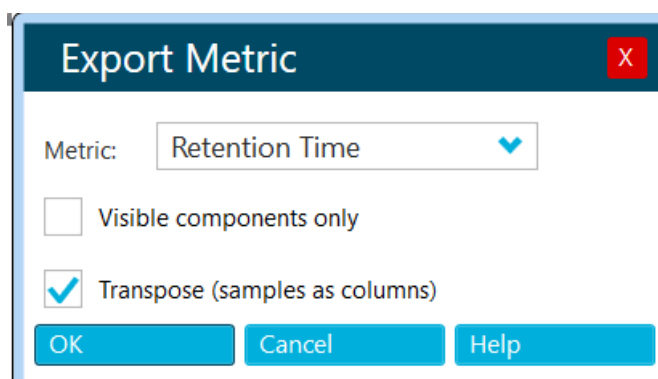

Figure 9.2. Exporting the results from SCIEX OS software for use in sMRM Pro Builder.
9. Process the data in SCIEX OS software [Section 8.0]. At this point careful data review is recommended to ensure the right metabolites are being integrated. Once satisfied, export the results for analysis in the sMRM Pro Builder. Select Reporting → Export Results → Results Table – Metric, then export the Area, Retention Time, Width at 50% as shown in **Figure 9.2**.